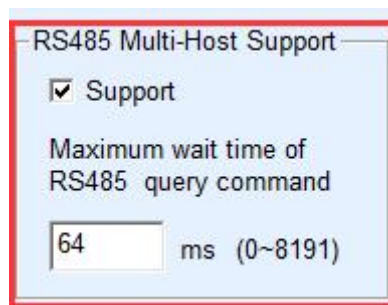
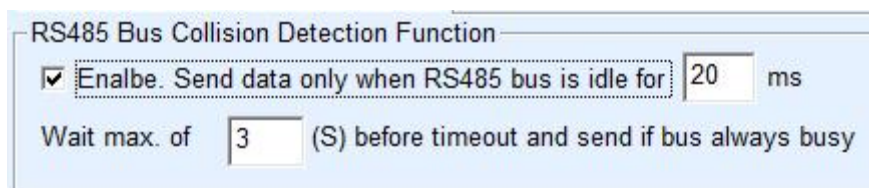

Figure 33: RS485 Multi-Host Support
Figure 34: RS485 Anti-Collision Idle Time
1. Figure 34 shows the "RS485 bus anti-collision time": Generally, it can be set to twice the value of the "Packet Interval" in the parameter configuration interface, but it should not be less than 20ms.
2. Figure 33 shows "RS485 instruction reply timeout time": Generally, it is determined based on the length of the command and its response. If the sent command is N bytes and the response is M bytes, then the recommended value to set is: "Packet Interval" \times (N + M + 5) + 100 ms.
It should be noted that at this time, the two checkboxes shown in Figure 34 as "RS485 bus anti-conflict time" and Figure 33 as "RS485 command response timeout time" need to be unchecked. Otherwise, the above forwarding function cannot be realized.